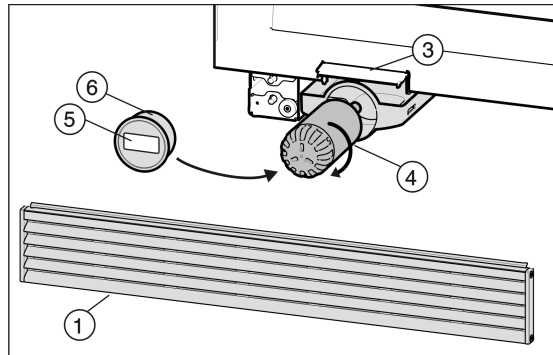

Fig. 7
- ▶ Insert the new filter *Fig. 7 (4)* and turn it about 100° clockwise as far as it will go.
- ▶ Place the cover *Fig. 7 (6)* on the filter.
- ▶ Write the date of the next filter replacement on the supplied adhesive label *Fig. 7 (5)* and affix it to the filter cover *Fig. 7 (6)*.
- ▶ Push in the water filter carriage *Fig. 7 (4)*.
- ▶ Close the filter change flap *Fig. 7 (3)*.
- ▶ Fit the ventilation grid *Fig. 7 (1)* again and push down. It must close flush with the floor.